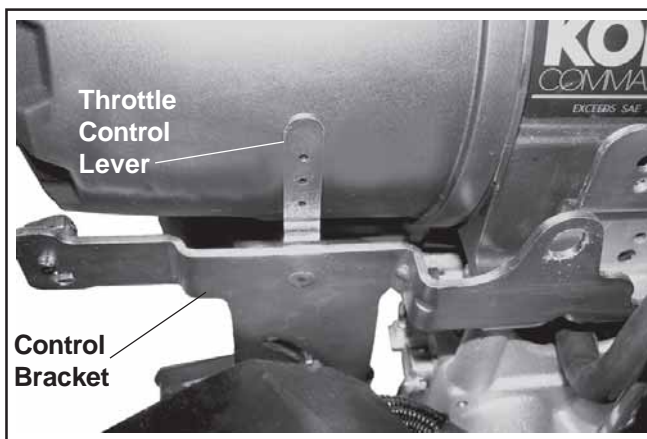

Figure 7. Throttle Control Lever.
1. Place the throttle control **midway** between the **slow** and **fast** positions. Place the choke control into the **on** position. See Figures 7 and 8.